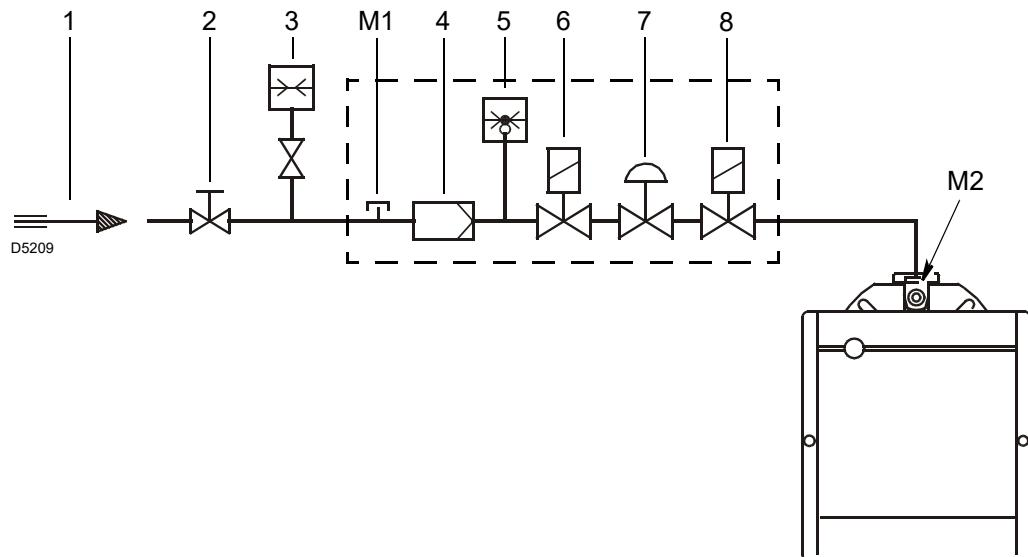

Fig. 14
Key (Fig. 14)
To calculate the required gas pressure at test point M2)(Fig. 14), with the maximum modulating output at which you want the burner to operate having been fixed:
- Read on the right, column 1, the pressure at the test point M2)(Fig. 14).
pressure required at the test point M2)(Fig. 14).
Gas pressure measured at test point M2)(Fig. 14), with:
- subtract the pressure in the combustion chamber from the pressure of the gas at test point M2)(Fig. 14).